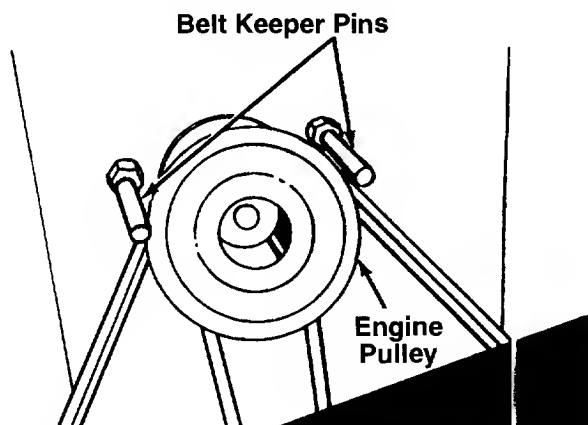

FIGURE 20.
NOTE: Figures 20, 22 and 23 are shown with the unit tipped up for clarity. It is not necessary to tip the unit to remove the belts.
2. Remove the belt keeper pins from the engine pulley belt guard. See figure 20.
3. Remove the belt keeper pins from the engine pulley belt guard. See figure 20.